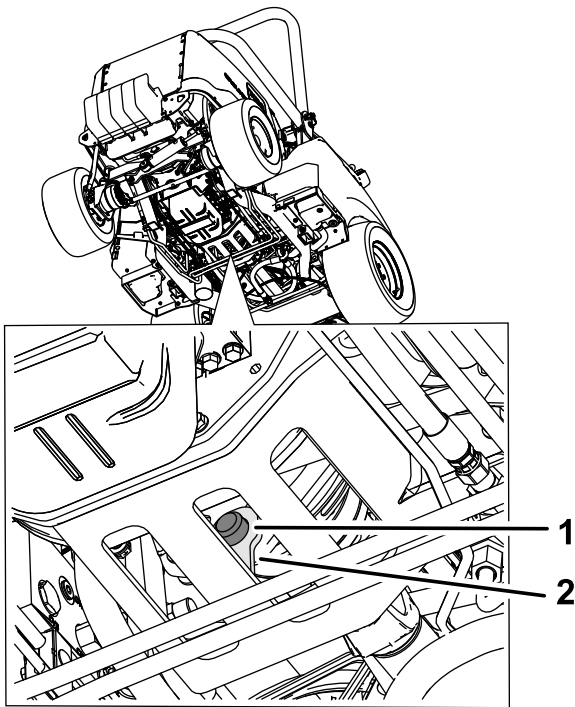

Figure 79
3. Remove the rubber bumper from the metal retainer and clutch (Figure 79).